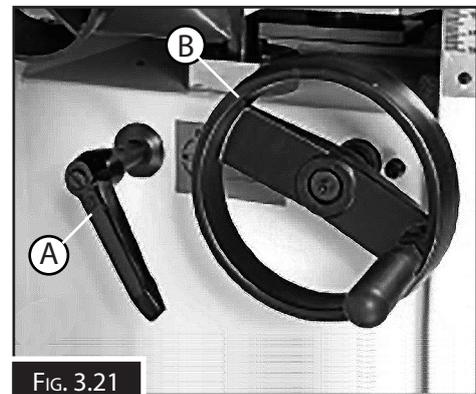

FIG. 3.21
2. Release the rise and fall clamping handle ("A" in Fig.3.21) and turn the operating wheel ("B" in Fig.3.21) counter clockwise to lower the thicknessing table until the pointer reads 190 on the PT-254S scale or 225 on the PT-305S and check that the stop is up against the under side of the thicknessing table. If not, loosen the locking nut and adjust the stop then re-tighten the nut to lock the setting. (Fig.3.22)